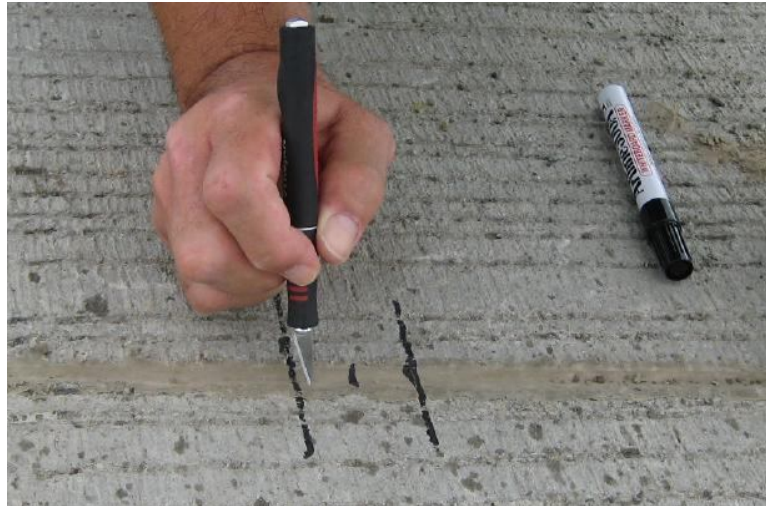

Figure 2. View of the three black marks on the sealant and concrete, and the first cut into the sealant
- (a) Place three transverse marks at 0 mm, 25 mm and 50 mm apart onto the sealant and concrete pavement at the location where the sealant is to be cut (see Figure 2).
(b) Make a first knife cut perpendicular to the edge of joint from one side of the joint to the other, down to the top of the backer rod (see Figure 2).